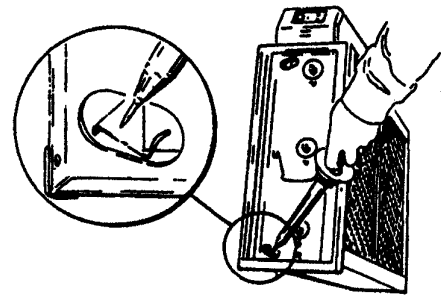

Figure 10
7. Attach the high voltage probe ground lead to the cabinet. While depressing the safety switch lever, touch the ionizer wire support bar with end of the high voltage probe (Figure 10). The meter reading should be 6.2 kVDC or 6.8 kVDC \pm .2 kVDC (depending upon the specific model). See the section entitled **TECHNICAL SPECIFICATIONS** for more details.